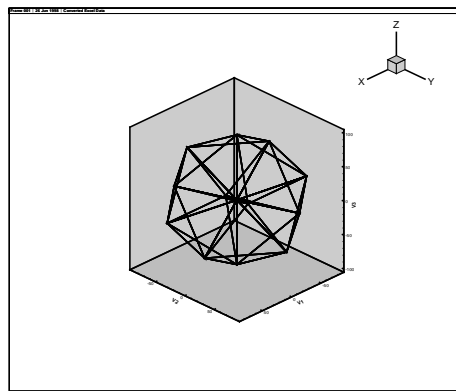

Figure 4-4. Excel spreadsheet **fe1.xls** 3D Cartesian plot.
10. The initial plot is 2D Cartesian, which you can convert to 3D Cartesian (via the Side-bar) for a full view of the finite-element volume (Figure 4-4).